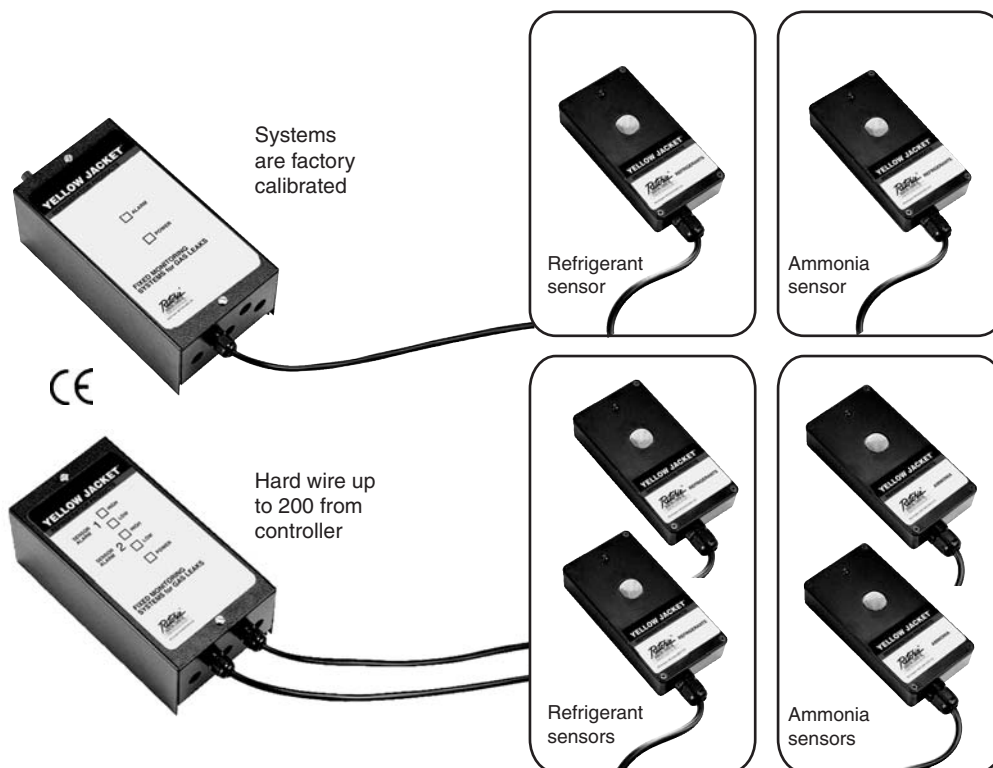

Fig. A4-9 Fixed monitoring systems. (Ritchie Engineering, available at www.yellowjacket.com)
- Q. Are calibrated leak testers available to confirm that the monitor is calibrated correctly? See Fig. A4-9.**